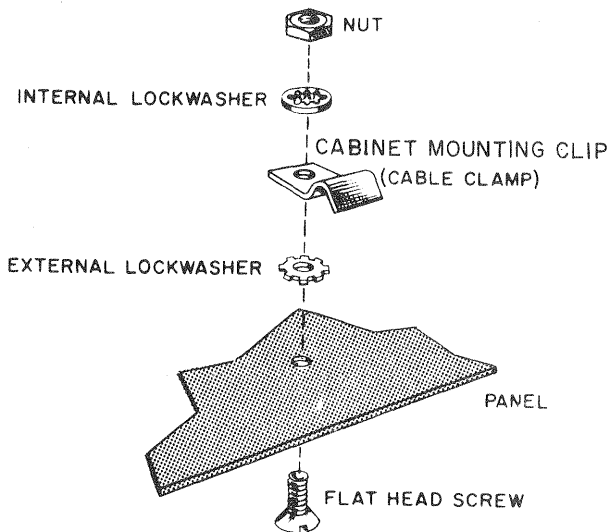

FIGURE 2. HOW TO ASSEMBLE THE CABINET CLAMP
- (X) Insert the short flat head screw through the hole in the top center of the panel. Place an external lockwasher over the screw. Next put one of the cable clamps over the screw. Now, put on an internal lockwasher and tighten a nut over it very securely. See Figure 2.